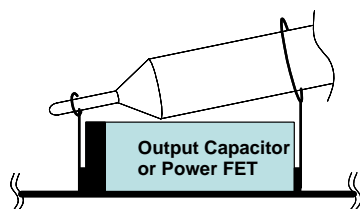

Figure 2. Proper Probe Setup to Measure Output Ripple
5. Use an oscilloscope to observe output voltage ripple and phase node ringing. For accurate measurement, see Figure 2 for the proper test setup.